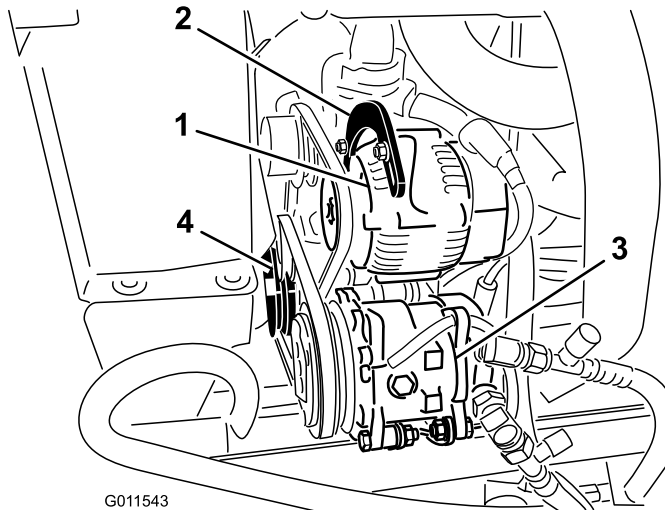

Figure 69
Check the condition and tension of the belt (Figure 69) after every 100 operating hours.
2. If the deflection is not 3/8 inch (10 mm), loosen the alternator mounting bolts (Figure 69). Increase or decrease the alternator belt tension and tighten the bolts. Check the deflection of the belt again to ensure that the tension is correct.
2. If the deflection is not 3/8 inch (10 mm), loosen the idler pulley mounting bolt (Figure 69). Increase or decrease the compressor belt tension and tighten the bolt. Check the deflection of the belt again to ensure that the tension is correct.